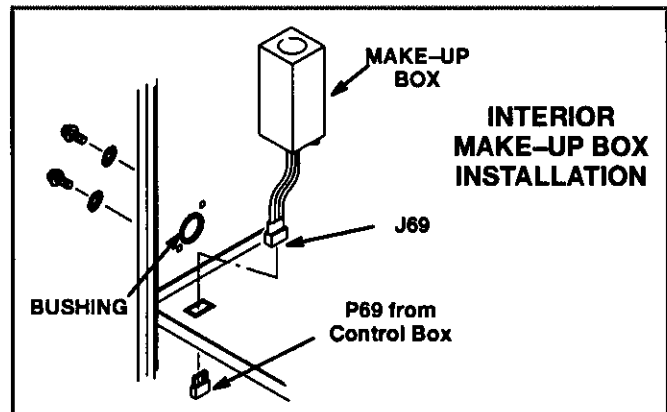

FIGURE 17
A field make-up box is provided for line voltage wiring. Line voltage wiring to unit is done through the J69 jack from the field make-up box to plug P69 from the control box. See figures 17 and 18 for make-up box installation.
- 1- Install field make-up box on either side, inside or out of the cabinet. Wiring knockouts are provided in box and cabinet. See figures 17 and 18.